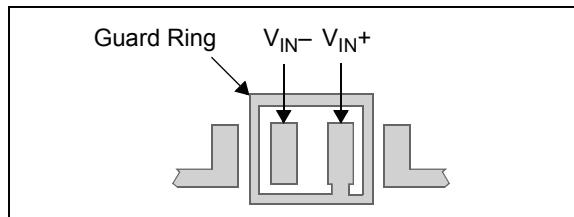

FIGURE 4-4: Example Guard Ring Layout.
The easiest way to reduce surface leakage is to use a guard ring around sensitive pins (or traces). Figure 4-4 shows an example of this type of layout.
1. Inverting Amplifiers (Figure 4-4) and Trans-impedance Gain Amplifiers (convert current to voltage, such as photo detectors).